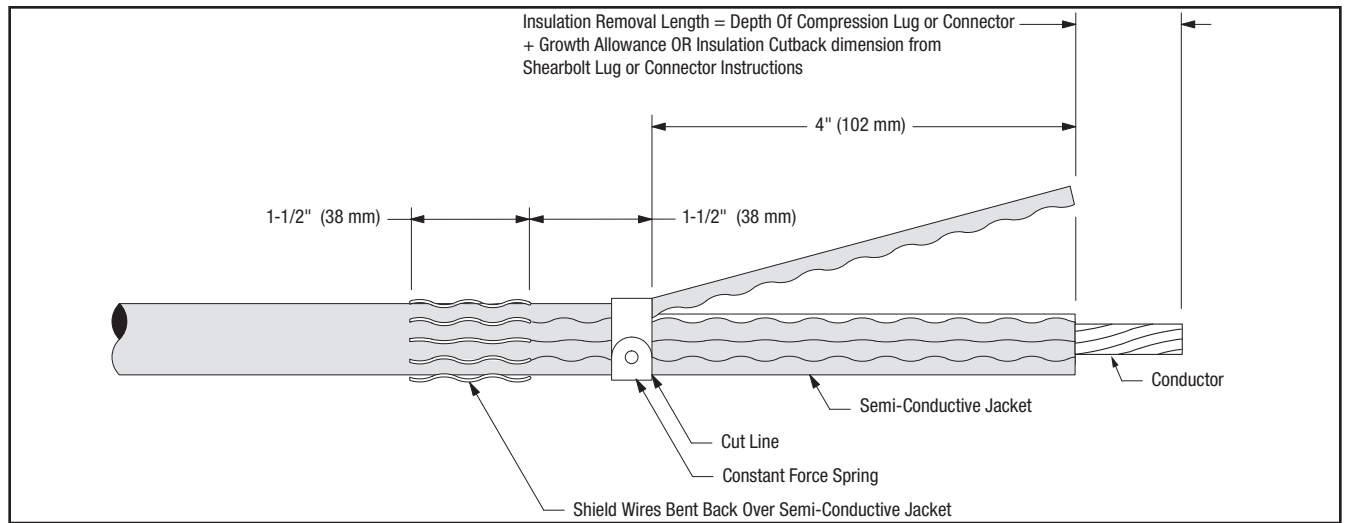

Figure 18
- 12.7 Remove semi-conductive jacket to dimension shown in Figure 18.
**NOTE:** To ease jacket removal, install constant force spring as shown in Figure 18 and ring-cut 80% through jacket. Remove jacket sections by pulling against constant force spring. **DO NOT BELL SEMI-CON JACKET.** Remove constant force spring.